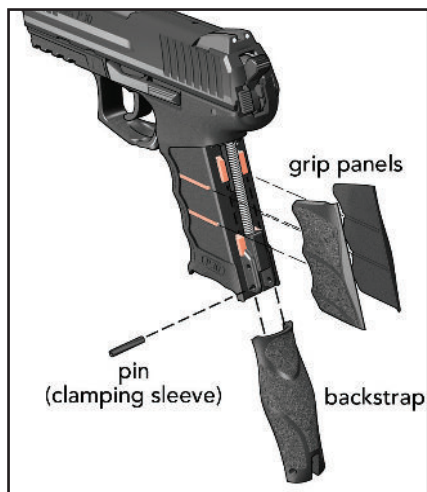

Figure 11
1. Using a 2.8 mm (or 7/64") pin punch, remove the pin holding the backstrap in position. Choose the combination of backstrap and grip panels that provide the most comfortable fit for the operator (see Figure 11).